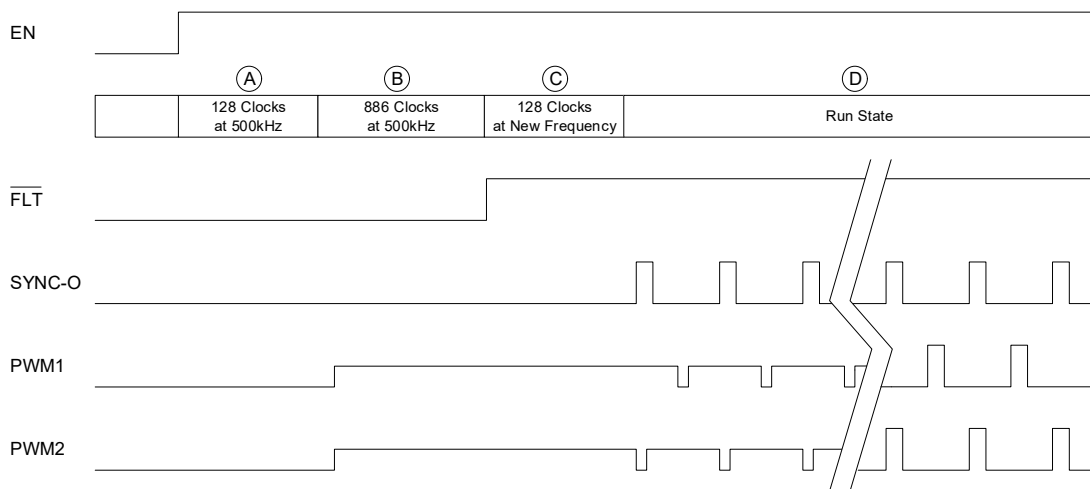
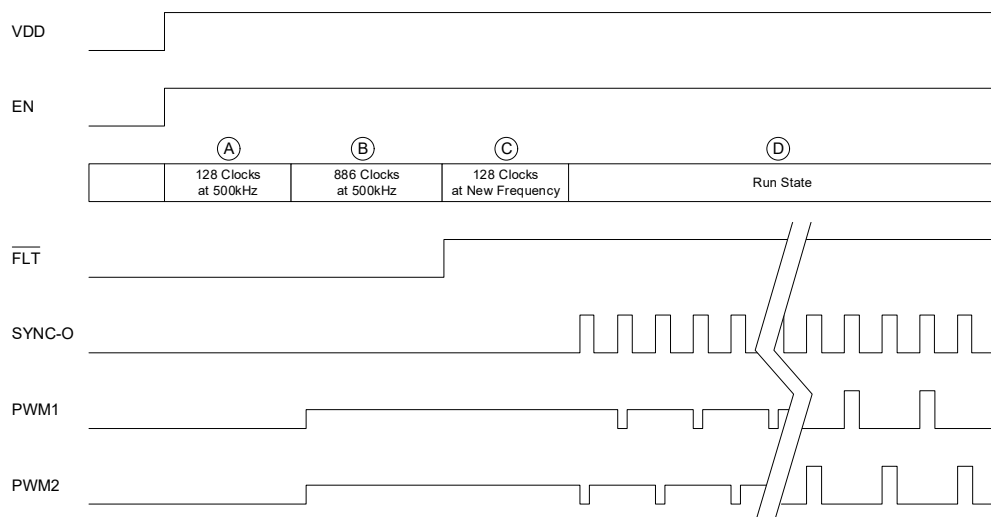

Figure 52. Start-Up Timing Diagram ($R_{\text{SYNC-O}} = \text{OPEN}$)
Figure 53. Start-Up Timing Diagram ($R_{\text{SYNC-O}} = 100\text{k}\Omega$)
When the ISL73847SLH first powers up, it goes through several states before boot refresh and soft-start. After VDD has crossed the rising UVLO threshold, the oscillator waits for 128 clock cycles at 500kHz before allowing the digital core to enter its configuration state. The configuration state lasts 886 clock cycles at 500 kHz. When the digital core completes its configuration, it signals the oscillator to switch to the frequency set by the FS pin or SYNC-I. After an additional 128 clock cycles at the new frequency, boot refresh pulses commence, followed by soft-start. Figure 52 and Figure 53 illustrate the start-up sequence.
During states A and C in Figure 52 and Figure 53, the oscillator blanks the clock signal to the digital core. Therefore, the oscillator has time to stabilize its frequency before entering the configuration state (B) or run state (D).